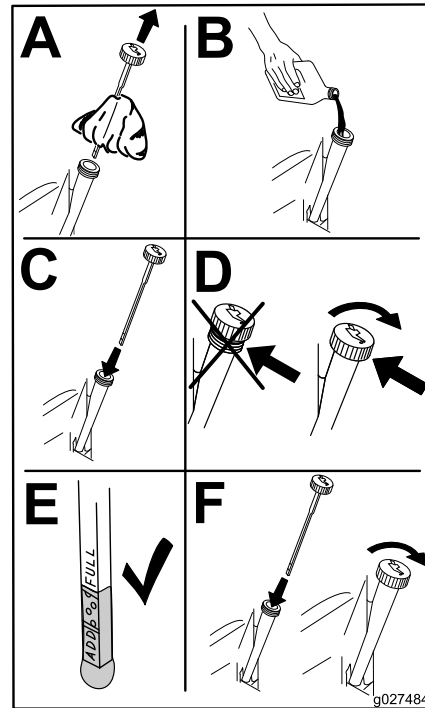

Figure 44
6. Slowly pour approximately 80% of the specified oil into the filler tube and slowly add the additional oil to bring it to the **Full** mark (Figure 44).